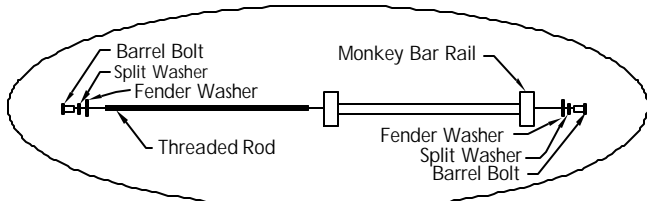
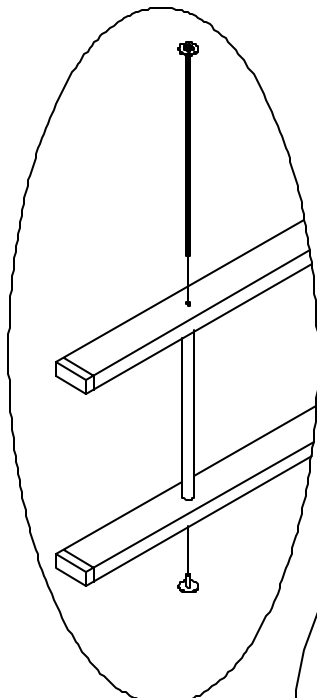

FIG. 7
FIG. 8
Step 2: Secure Top Ladder Rails & End Ladder Rails with Barrel Bolt & Threaded Rod. (See fig. 7 & fig. 8)